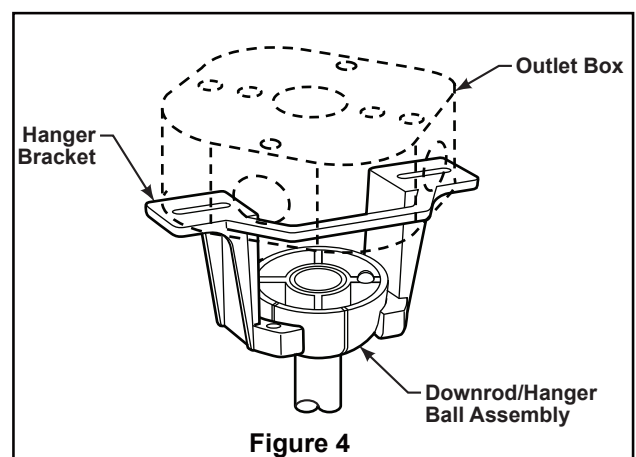

Figure 4
- 4. Thread downrod into the downrod support on top of the motor. Install the clevis pin by aligning the holes in the downrod support with holes in the downrod. Secure clevis pin with hairpin clip. Tighten the two set screws with nuts in the downrod support. (Figure 4)
2. Carefully lift the fan and seat the downrod/hanger ball assembly on the hanger bracket that was just attached to the outlet box. Be sure the groove in the ball is lined up with tab on the hanger bracket. (Figure 4)
- 4. Assemble the LED assembly to the light kit assembly using the screws removed in Step 3A. (Figure 4)
- 4. Follow these steps to pair your remote control to your fan. (Figure 4)**